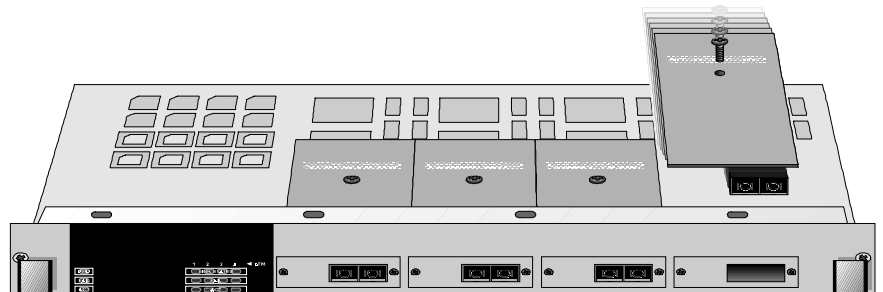

Figure 4-5 4-Port ATM Interface Module
- 2 Align each module with the front panel aperture as shown in Figure 4-5 and press down to engage the strip connectors on the underside of the module. Three screws anchor each module to its seat on the interface card. Interface openings reserved for future use should be covered with blank panels. Used interfaces should use the coax or optical panels as covers.